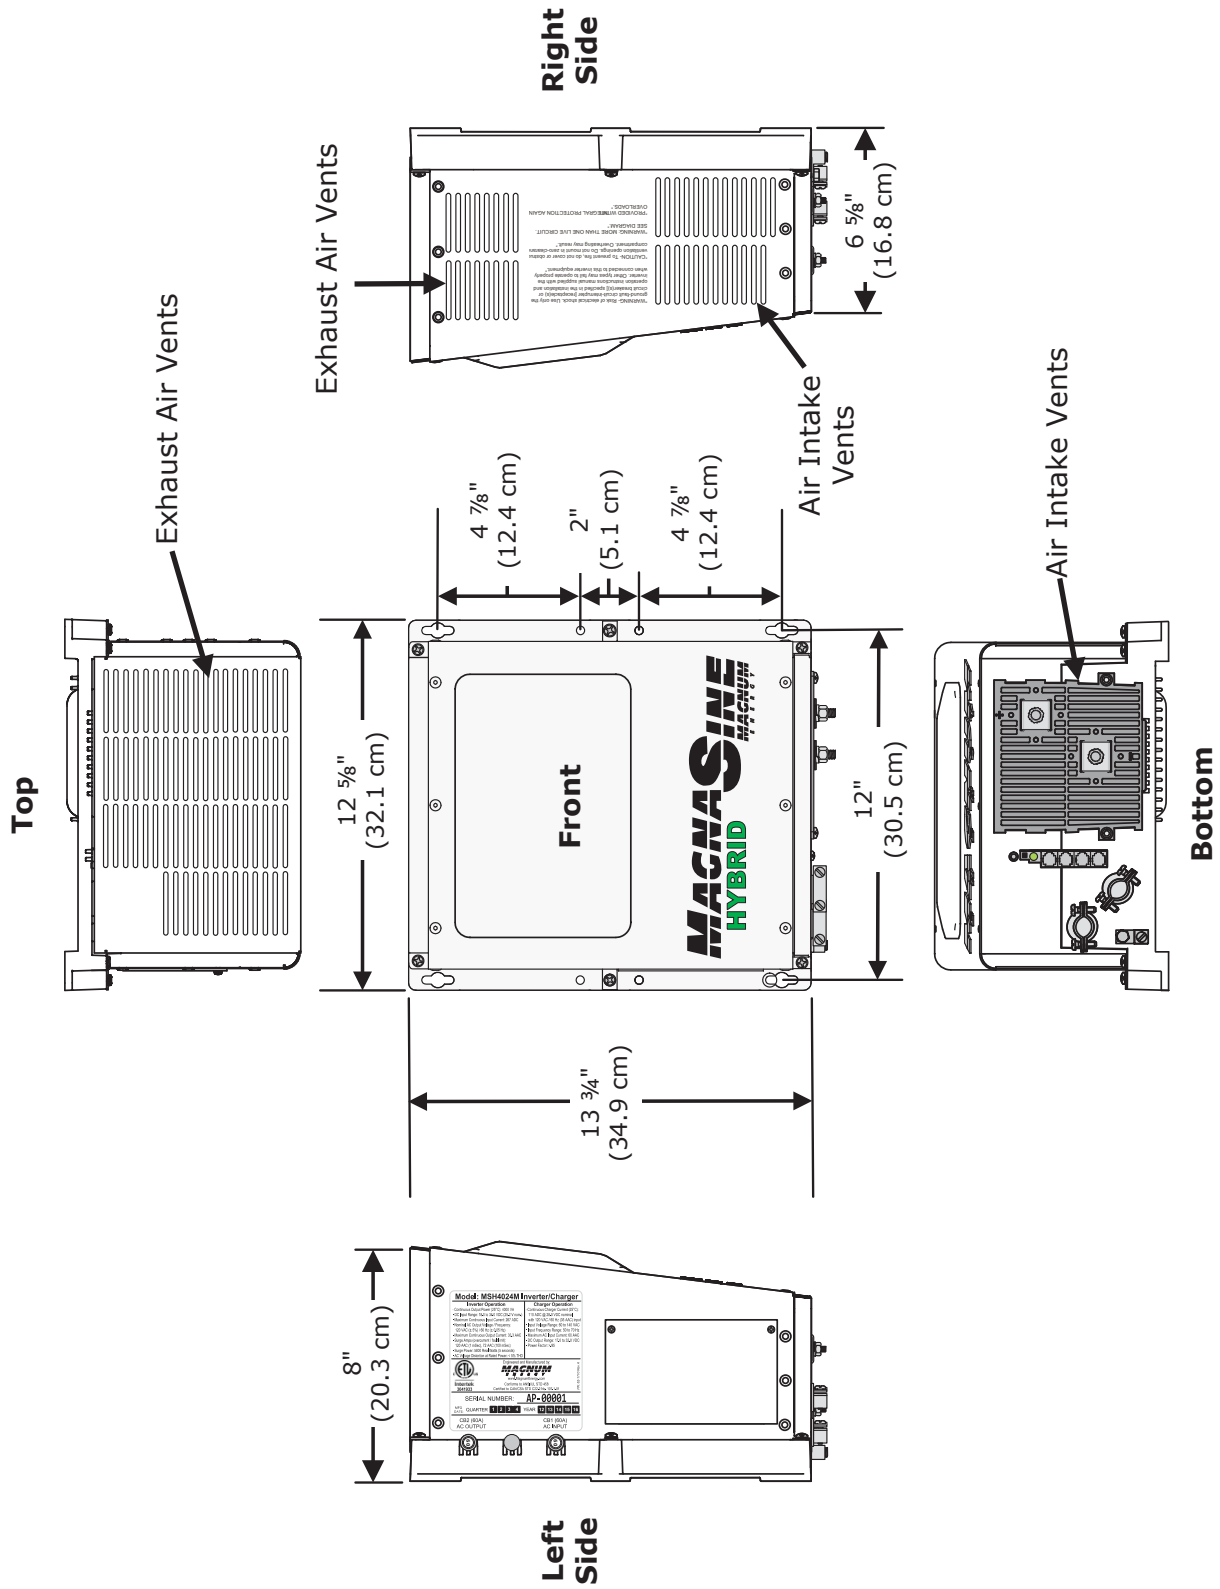

Figure 2-3, MSH-M Series Dimensions and Side References
- 9 **Intake Air Vents** – ventilation openings to pull in air to help keep the inverter cool for peak performance. The intake air vents are located on the front side and at the front on the right side; also see Figure 2-3 for the location of the air vents.
- 13 **Exhaust Air Vents** – ventilation openings that allow heated air to be removed by the internal cooling fan. The exhaust air vents are located on the back side and at the rear on the right side; also see Figure 2-3 for the location of the air vents.
Accessible – Do not block access to the inverter's remote control and accessory ports, as well as the inverter's controls and status indicator. Allow enough room to access the AC and DC wiring terminals and connections, as they will need to be checked and tightened periodically. See Figure 2-3 for the MSH-M Series inverter/charger's dimensions.
After determining the mounting position, refer to the physical dimensions as shown in Figure 2-3, or use the base of the inverter as a template to mark your mounting screw locations. After marking the mounting screw locations, mount the unit with appropriate mounting hardware.